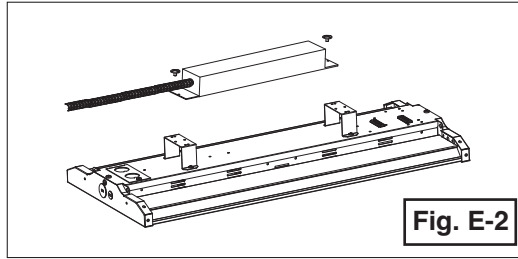

Fig. E-2
2. Mount the emergency LED driver unit on the mounting bracket using additional screws. (Figure E-2)